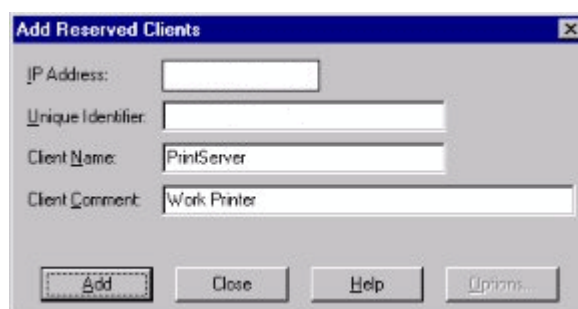

Figure 1. Adding a Reserved Client
- In **Figure 1**, enter the IB-23 MAC address (Do not enter the colons, e.g. '00:c0:ee:14:00:87. '), IP address, and other information. The IB-23 MAC address may be obtained from the IB-23 Network Status Page.